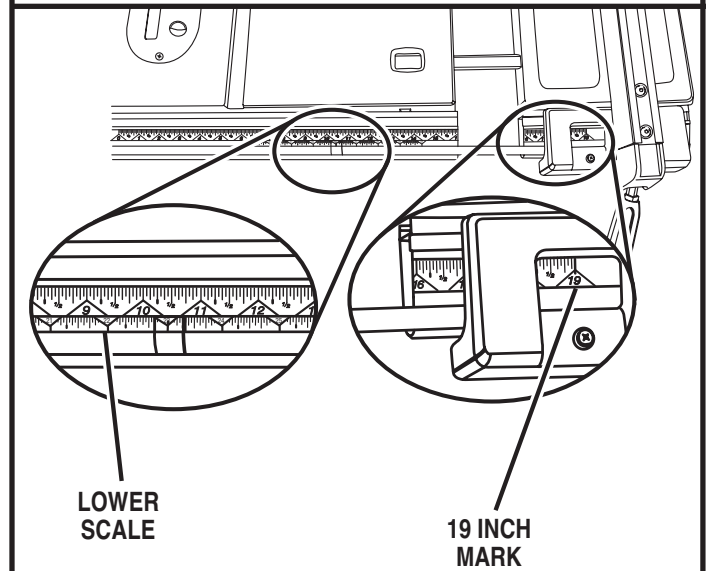

Fig. 32
See Figure 32.
- Set the rip fence to 19 in. as shown in figure 32.